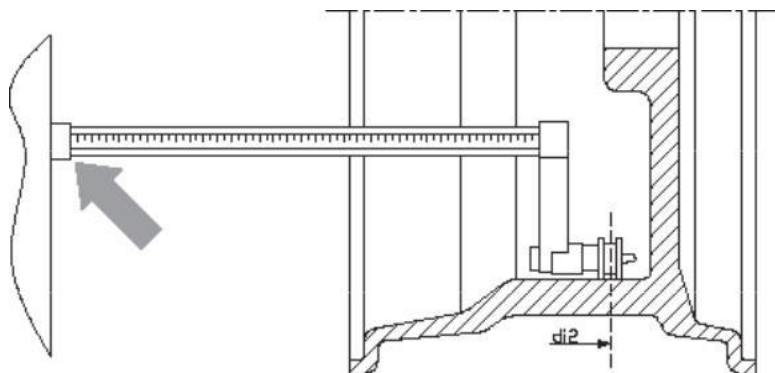

Figure F3.5- Manual Acquisition of the external planed distance in the ALS1 and ALS2 Programme Types
6. Extract the distance sensor and place it on the plane chosen for the external weight as shown in Figure F3.5;